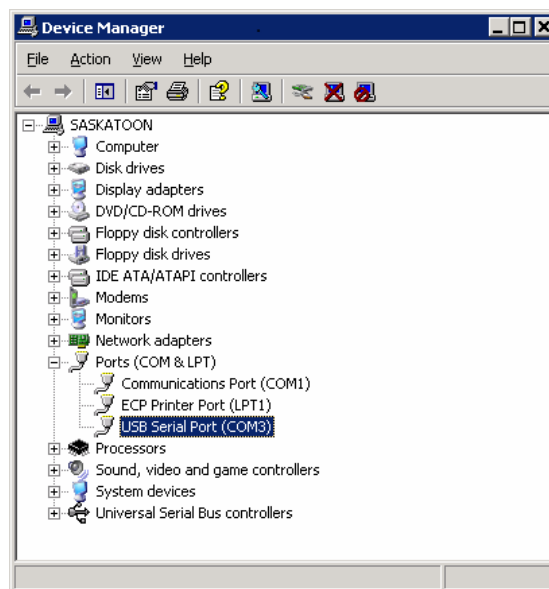

Figure 3 – USB Serial Port Number
4. The USB serial device will have a new com port assigned to it that will appear in the device manager. To determine the new USB serial port number, from the Windows Start menu select 'Settings->Control Panel'. Select 'System' to view the system properties and from the system properties select the Hardware tab. Select Device Manager and expand the ports node to view the port number assigned to the USB Serial Port (see figure 3). In SPCU, select 'Preferences->Local Connection' and change the communication port to the USB serial port number obtained from device manager. Click 'OK'.